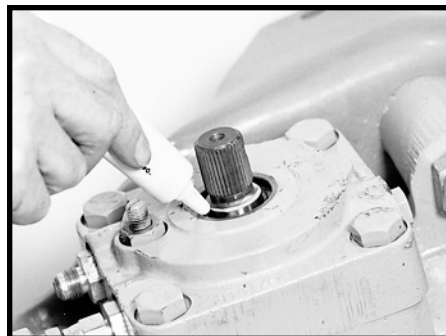

Figure 30
- 2.8 Pack the area around the worm shaft/input shaft (16) and dirt and water seal (4) cavity with high temperature industrial grease per Ross specification 045231, *Mobil Temp 1 or 2 or equivalent. SEE FIGURE 30.